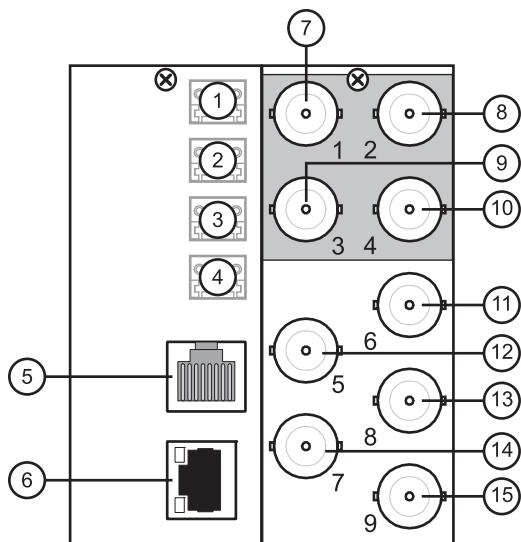
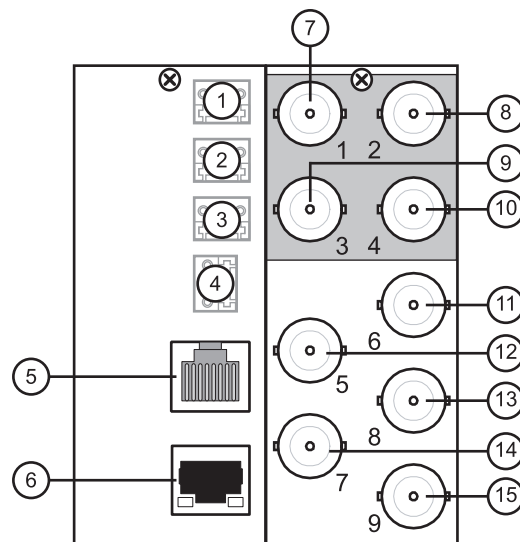

Figure 2.4 8310AR-033 Cable Connections
Figure 2.5 8320AR-033 Cable Connections
Refer to **Figure 2.4**, **Figure 2.5**, and the Rear Module silk-screen labels for cabling designations.
2. Connect and secure the RJ45 connector of the **Serial Interface Cable** to the **Serial COM** port on the Rear Module (**Figure 2.4** and **Figure 2.5**).
2. Connect the MDK-111A-Lite to the same subnet as your DashBoard computer or to a network that has a route to the network your DashBoard computer is on. Refer to **Figure 2.4** and **Figure 2.5** for the **Ethernet 10/100** port location on the Rear Module.
1. Locate the GPI/Tally ports on the Rear Module. Refer to the Rear Module labelling and **Figure 2.4**, and **Figure 2.5** for port locations.